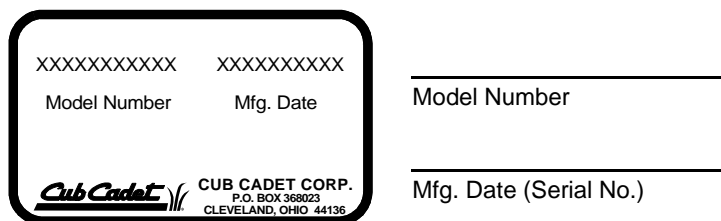

Figure 1
- Every tractor has a model plate. The model plate is located on the right frame rail behind the right front tire. See Figure 1.